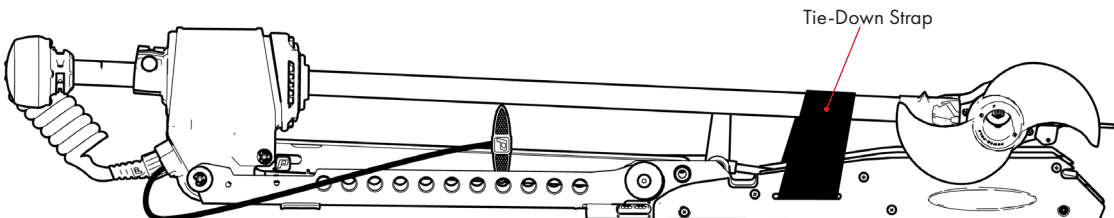

Figure 3
STEP 2 If needed, attach the **Tie-Down Strap**. **FIG 3**